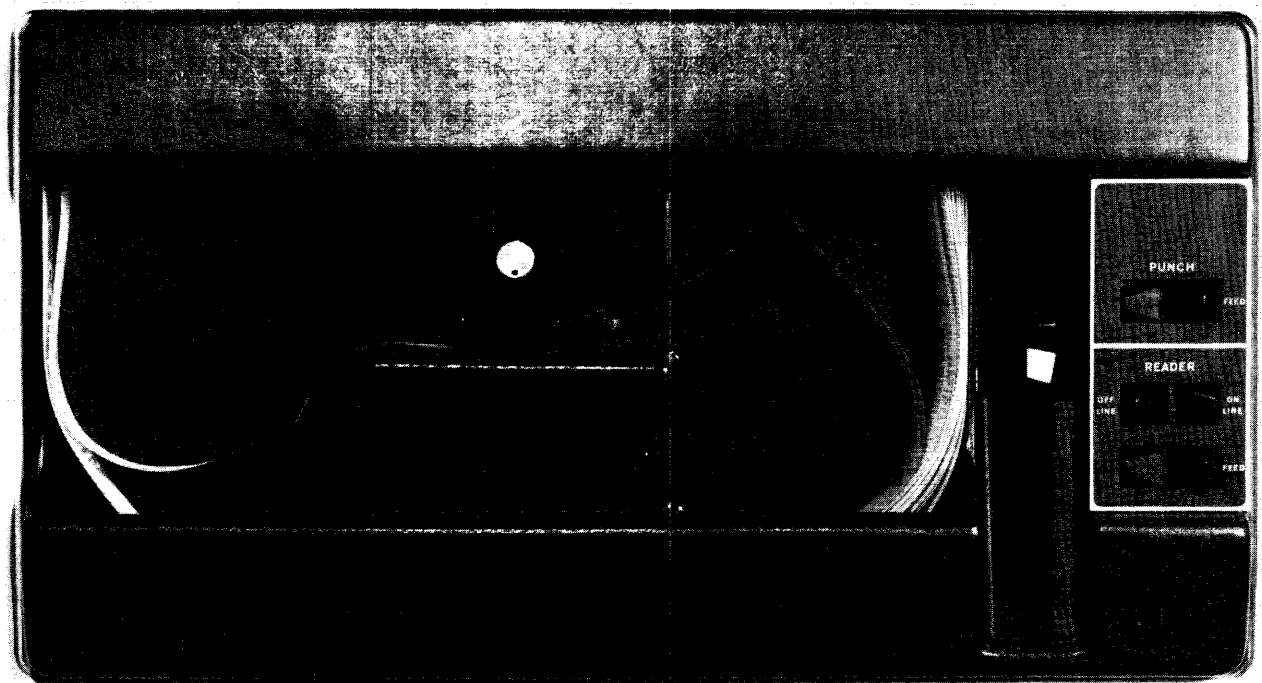

Figure 4-5d
11. Press the FEED switch momentarily, and observe that the tape moves from right to left and begins to fold automatically into the receiving pockets. Advance the tape sparingly; do not let the data portion of the tape reach the read station (Figure 4-5d).